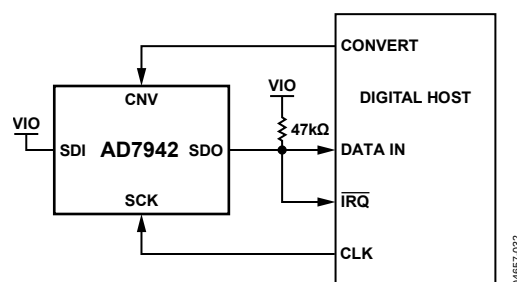
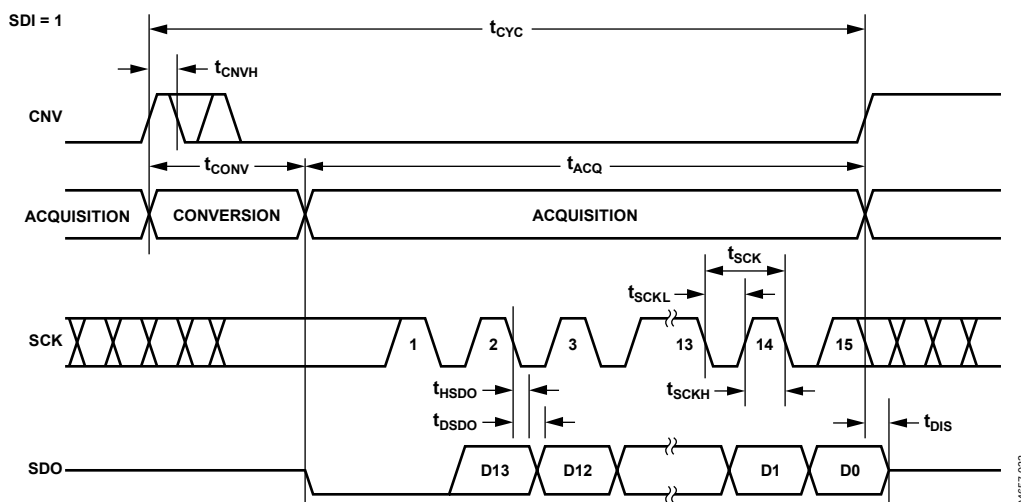
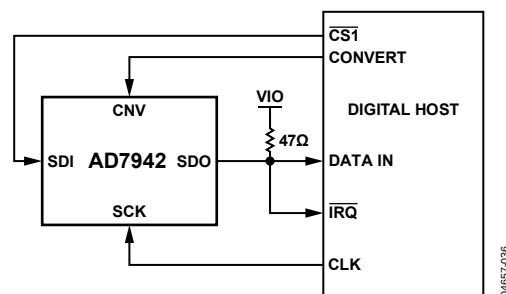
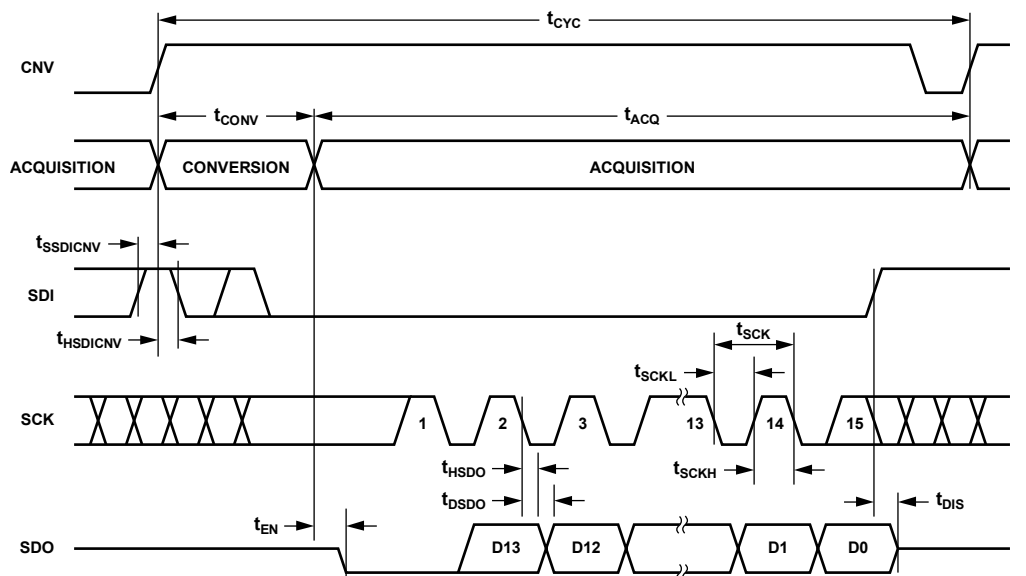

Figure 32. $\overline{CS}$ Mode 3-Wire with Busy Indicator Connection Diagram (SDI High)
Figure 33. $\overline{CS}$ Mode 3-Wire with Busy Indicator, Serial Interface Timing (SDI High)
Figure 36. $\overline{CS}$ Mode 4-Wire with Busy Indicator Connection Diagram
Figure 37. $\overline{CS}$ Mode 4-Wire with Busy Indicator, Serial Interface Timing
- In the $\overline{\text{CS}}$ mode, if CNV or SDI is low when the ADC conversion ends (see Figure 33 and Figure 37).
This mode is most often used when a single AD7942 is connected to an SPI-compatible digital host with an interrupt input. The connection diagram is shown in Figure 32 and the corresponding timing diagram is shown in Figure 33.
This mode is most often used when a single AD7942 is connected to an SPI-compatible digital host with an interrupt input and to keep CNV (which is used to sample the analog input) independent of the signal used to select the data reading. This requirement is particularly important in applications where low jitter on CNV is desired. The connection diagram is shown in Figure 36 and the corresponding timing diagram is given in Figure 37.